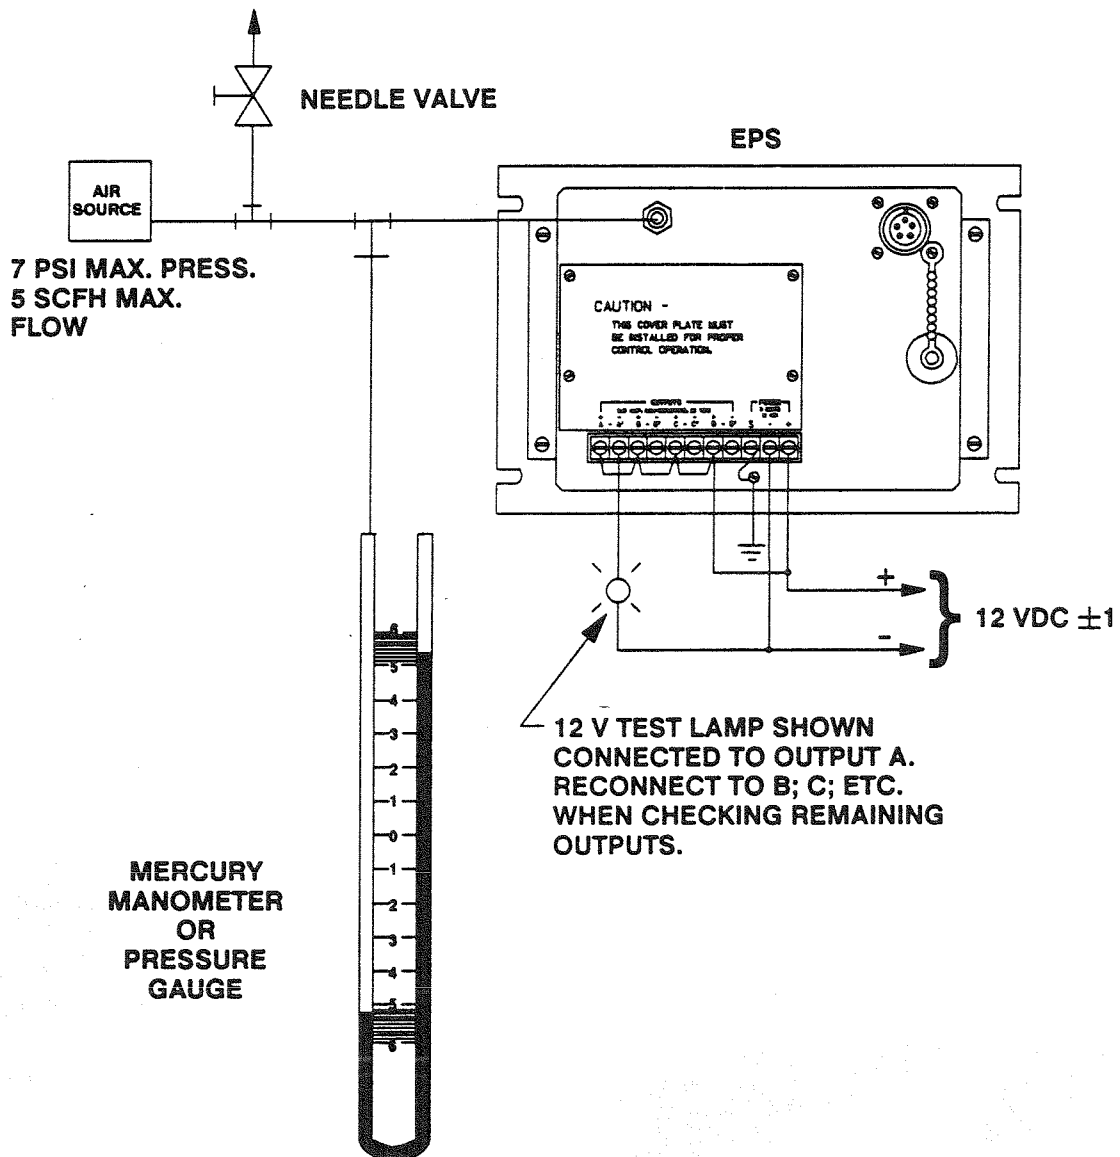

Figure D-4. Operation Check
- a. Construct operational check set up Figure D-4, and calibrate the EPS as described previously in **CALIBRATION**.
- b. Set the DVM scale to 200mVDC and turn control power ON. Note that 1mV = 0.1 foot of water. Compare the reading on the DVM with the feet of water display. Slowly increase and decrease pressure on the transducer. See Figure D-4. The DVM and feet of water display should read relatively close but not necessarily the same value. However, the two readings should track together as the pressure increases or decreases. Turn control power OFF and replace the feet of water display if it fails to follow the DVM by excessive amounts. See Section E, **REPAIR**.
- b. Turn control power ON, apply pressure to the transducer, Figure D-4, and compare applied pressure to the transducer voltage output in Table D-7.
- a. Connect to the air bubbler pressure connection, Figure D-4. Turn the control power ON. Adjust all ON setpoints to 3.0 feet and all OFF setpoints to 1.0 feet.
- a. Connect to the air bubbler pressure connection, Figure D-4. Turn control power ON. Adjust all ON setpoints to 3.0 feet and all OFF setpoints to 1.0 feet.